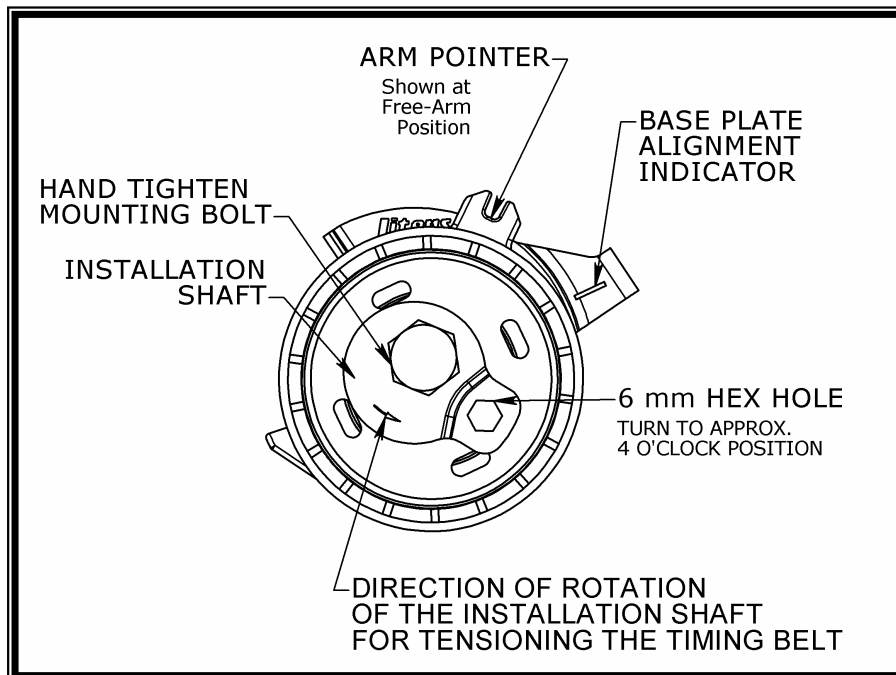

Figure 3: Timing Belt Tensioner shown in the initial setup.
6. Rotate the installation shaft on the tensioner using a 6mm Hex Allen Key to approximately the "**4 O'clock position**", see Fig. 3. Hand tighten (lightly) the *Mounting Bolt*. This will maximize the belt clearance for ease of installation.